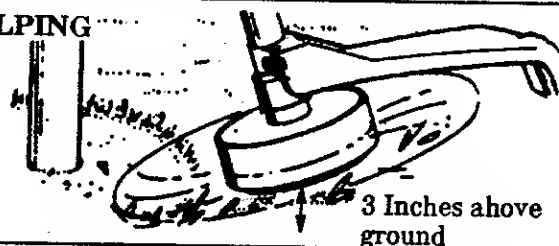

Figure 14
2. **SCALPING** - FIGURE 14. The scalping technique removes unwanted vegetation. Hold the bottom of the trimmer head about 3 inches above the ground and at an angle. Allow the tip of the line to strike the ground around trees, posts, monuments, etc. *This technique increases line wear.*